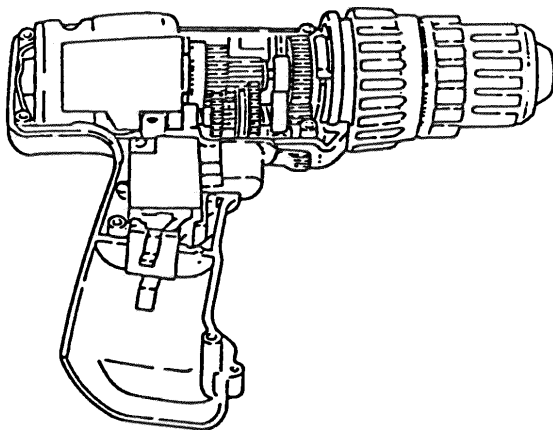

Fig. 18
- (i) Apply grease (Hitachi Motor Grease No. 29 is recommended) to all sliding portions, rotating portions, and gear meshing portions. In particular, if the Second Pinion ③②, High Speed Gear ③④ or Low Speed Gear ③① are replaced, apply a generous amount of grease to the outer circumference of the Second Pinion ③② and the inner circumferences of the High Speed Gear and Low Speed Gear.
- [2] Install the parts assembled in Para. [1], above, into Housing (A). (Fig. 18)